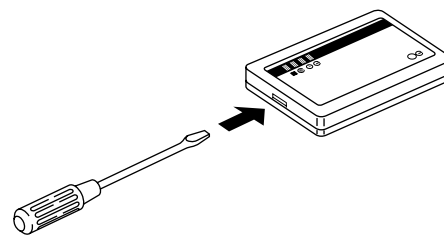

Fig. 7-14
- (1) Insert a minus driver into the gap under the signal receiving unit and pry off the cover (Fig. 7-14)
- (1) Insert a flat tip (minus) screwdriver into the slot on the lower side of the signal receiving unit and pry off the back case as shown in Fig. 7-14.